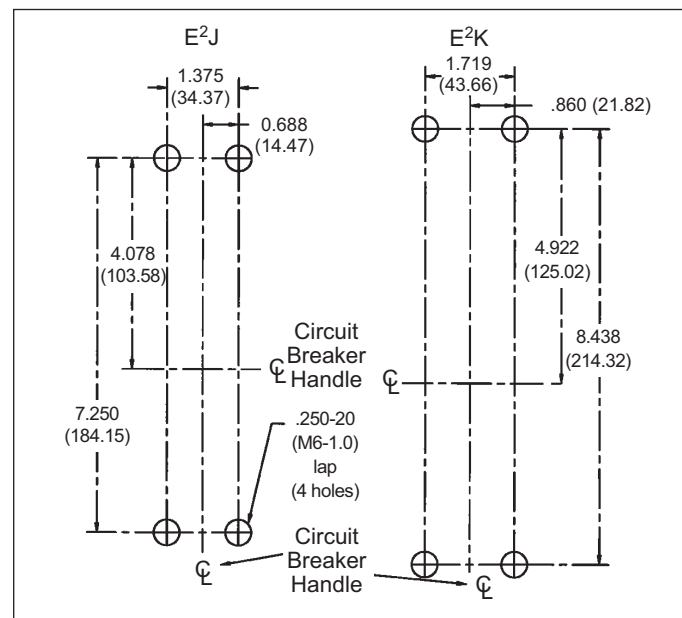

Figure 2-4 Circuit Breaker Mounting Bolt Drilling Plans
- a. For individual surface mounting, drill mounting panel using the drilling plan shown in Figure 2-4. For panelboard mounting, only load end support mounting holes are required. For dead front cover applications, cut out cover to correct escutcheon dimensions. (See Figure 2-5)